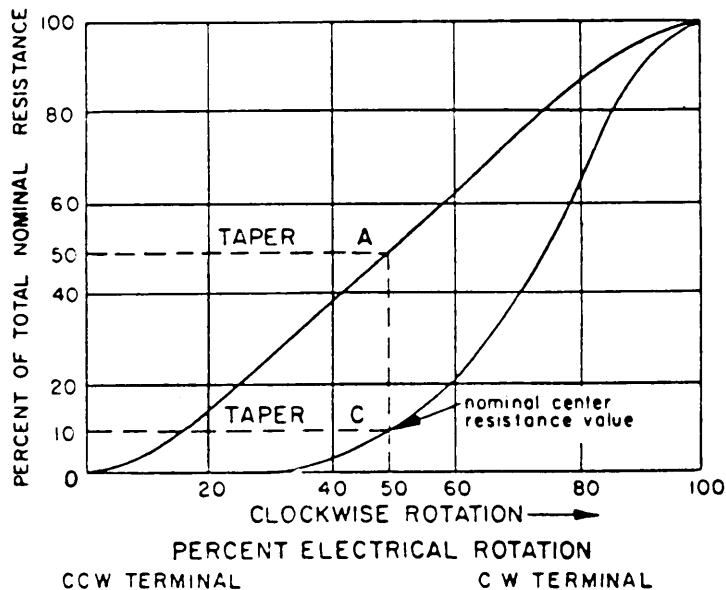

FIGURE 208-2. Clockwise taper.
2.8 Linear and nonlinear tapers. Taper A is a linear resistance taper, which is one having a constant change of resistance with angular rotation, while taper C is a nonlinear resistance taper, which has a variation or lack of constancy in the change of resistance with angular rotation. (See figure 208-2.)